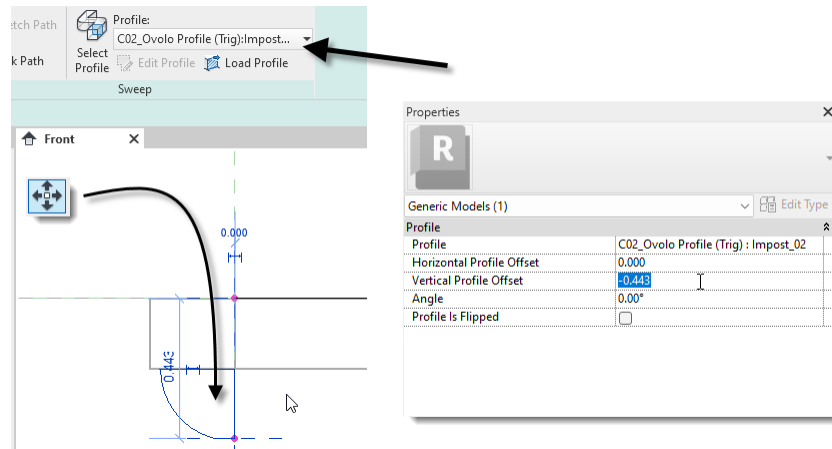

Figure 60—Shift the Ovolo profile down
- ⇒ In the Front view, using the Move command, move the profile down and snap it to the underside of the rectangular profile above it (see Figure 60).